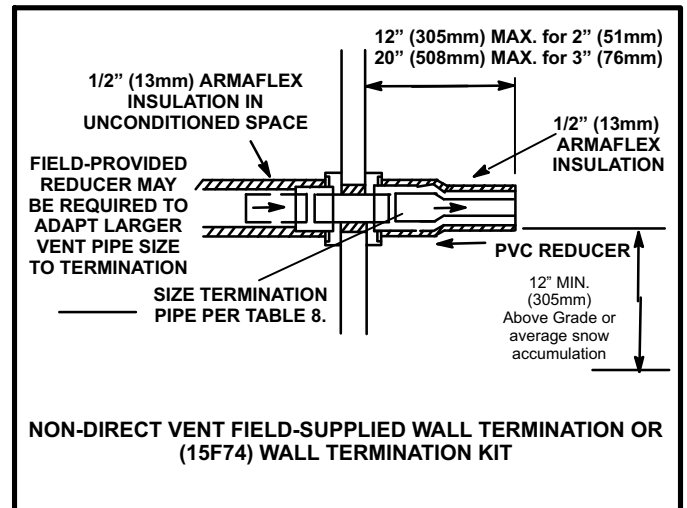

FIGURE 38
- 2 - On field supplied terminations for side wall exit, exhaust piping may extend a maximum of 12 inches (305mm) for 2" PVC and 20 inches (508mm) for 3" (76mm) PVC beyond the outside wall. See figure 38.